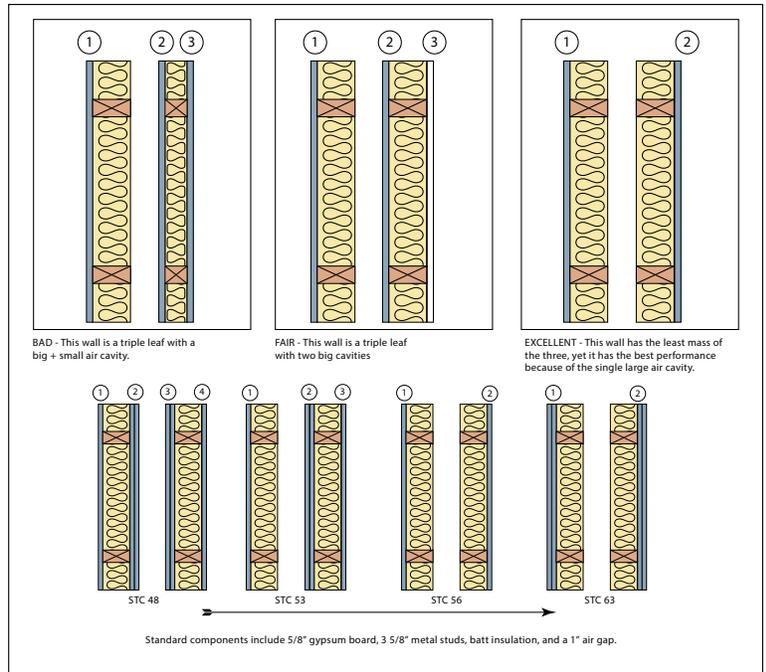

Figure 1
- **Guest rooms** with poor sound isolation between adjacent rooms and footfall noise from above, both of which interfere with privacy and sleep. Typical acoustic design will rate a wall or floor barrier for the degree of abatement in advance, and balance treatments with the architectural design early in the process. For example, specifying the proper wall assembly (see Figure 1) and proper detailing of concrete floor slabs is critical to successful acoustic comfort. New and innovative approaches also can include sound masking of higher ambient noise that needs to be made less distracting.
Adding more mass such as extra layers of gypsum wallboard is a common approach and can somewhat increase a wall assembly's sound isolation. Going beyond one or two extra layers, however, provides diminishing improvement and adds unnecessary additional cost and wall thickness. Adding more mass may even deteriorate sound isolation qualities. For example, adding a third pane of glass to a window can be a consideration for energy improvement but does little to improve noise control (as is commonly believed). This "triple pane resonance" — employing three panes of the same thickness and same air gaps between them — lowers the barrier effectiveness with respect to acoustics, and it adds cost. An approach in the construction of demising walls adds an interstitial solid panel between a double stud wall, resulting in dual cavities as illustrated in Figure 1. In this "triple leaf effect," efficient resonance inside the assembly lowers the sound isolation rating. The barrier value "STC" (sound transmission class) seen in the chart is a widely used single-number rating of barrier effectiveness; a higher number corresponds to better acoustical isolation. For example, an STC 40 barrier could result in a guest's perception of noise being twice as loud as what might be perceived with a barrier rated STC 50.
Figure 1 demonstrates that it is possible to build a cheaper partition with less material and better performance. In addition, simple attention to details is far more productive, again at less cost. Details that matter in the wall framing include stud spacing and stud gauges (lighter is better than heavy); other important details include gaskets, sealing, door seals, and proper spacing between glass panes. These are all essential to achieving an integrated and successful noise design.